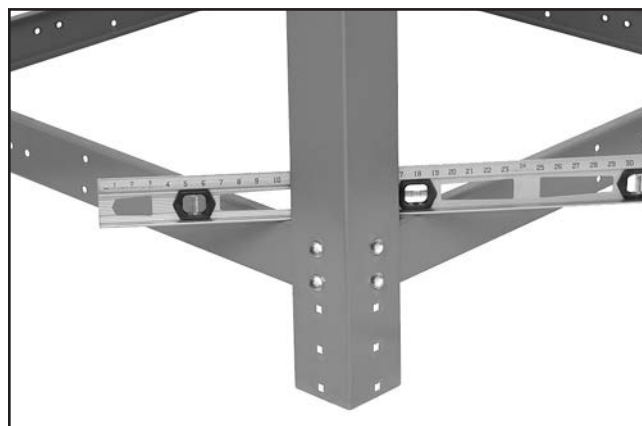

Figure 11. Level positioned on the upper stand.
5. Place level across corners of lower stand braces and square stand, then fully tighten all fasteners (see **Figure 11**).